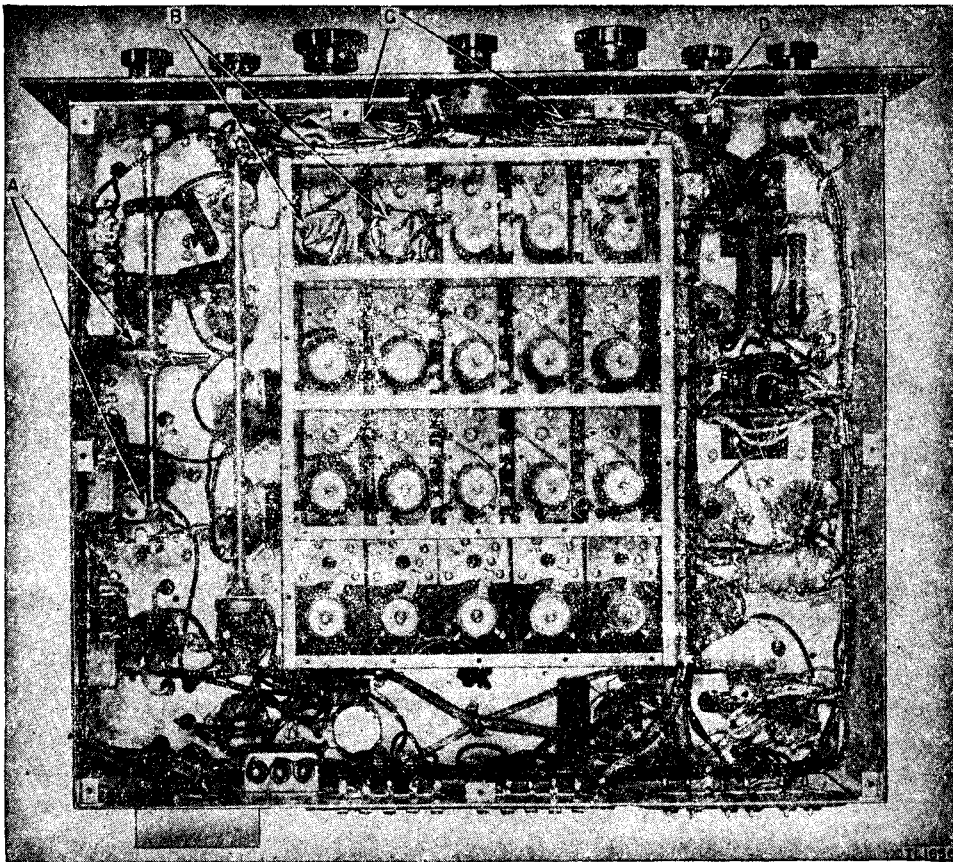

Figure 21. Radio Receiver BC-1004-C, bottom view of chassis, showing masking.
(4) Cams and levers on bandwidth selector-mechanism shaft (A, fig. 21).
(5) Capacitors in alinement-adjustment section (B, fig. 21).
(6) Friction drive wheels of main tuning and band spread selecting mechanism (C, fig. 21).
(7) Phone jack (D, fig. 21).
*e. DRYING.* (1) Place equipment in an oven or under heat lamps and dry for 2 or 3 hours at 160° F.